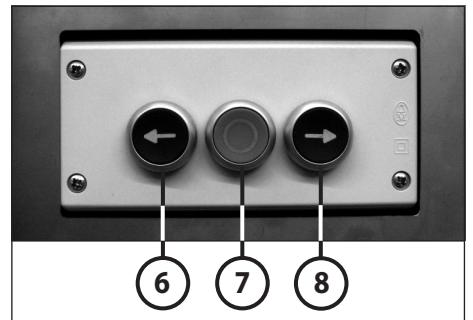

fig. 12
- 6 = „Advance Ram“ Key (compacting cycle) (fig. 12)
- 7 = „Stop Ram“ or "Open Discharge Flap" Key (fig. 12)
- 8 = „Return Ram“ Key (return stroke) (fig. 12)